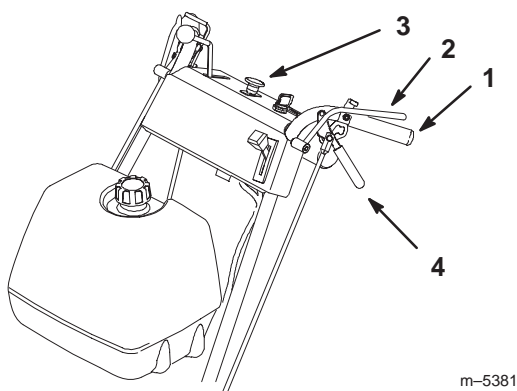

Figure 13
- To engage blade, squeeze the Operator Presence Control (OPC) levers against handle grips (Fig. 13).
- Push the blade control switch (PTO) to off (Fig. 13).
- Release Operator Presence Control (OPC) levers to disengage blades (Fig. 13). This will also kill the engine.